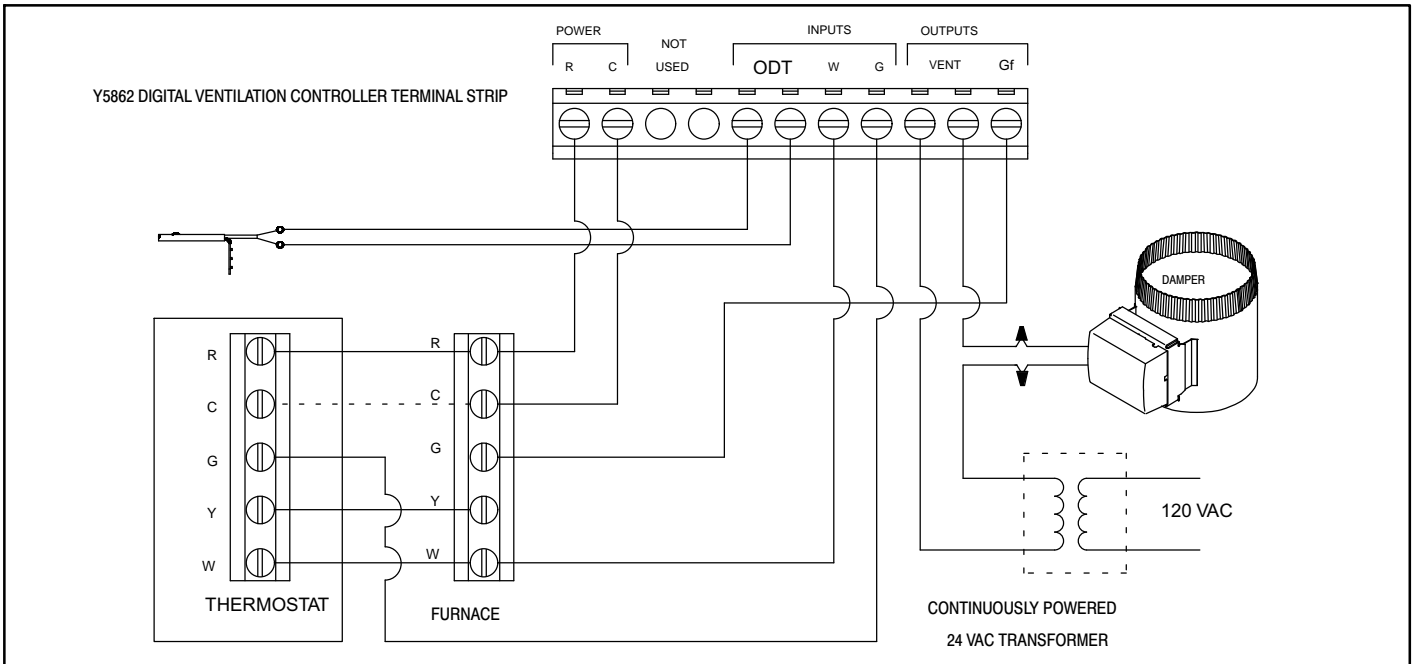

Figure 6. Wiring the Digital Ventilation Controller (Conventional 24VAC Thermostat Used)
- Route wire from the **R**, **C** and **W** terminals on the digital ventilation controller to the corresponding terminals on the furnace / air handler/heat pump control. Do not remove any existing **R**, **C**, and **W** leads already connected. See figure 6 for the terminal locations.
The normally closed damper should be wired in series with a continuously energized 24VAC transformer (provided) and connected to the terminals labeled **VENT** of the digital ventilation controller. See figure 6.
- Strip wire 1/4 inch, and insert the field wires from the sensor into the terminals labeled **ODT** on the digital ventilation controller. See Figure 6 for terminal locations.